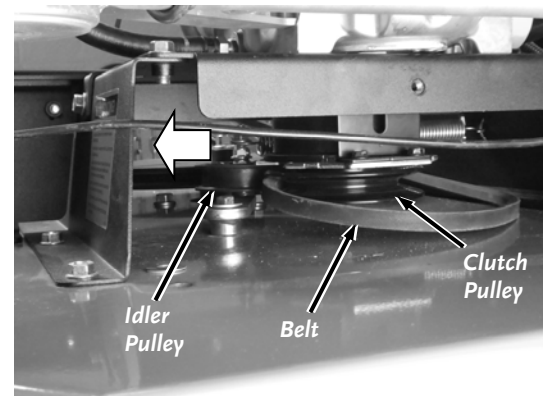

Figure 43
- Rotate the Idler Pulley away from the Drive Belt using a Pry Bar or Long Screwdriver and pull the Drive Belt down off the Clutch Pulley (**Figure 43**).
- From the back of the machine, insert the new Drive Belt under the Clutch Pulley until one end is over the Blade Pulley up front and the other end is near the Clutch Pulley (**Figure 43**).